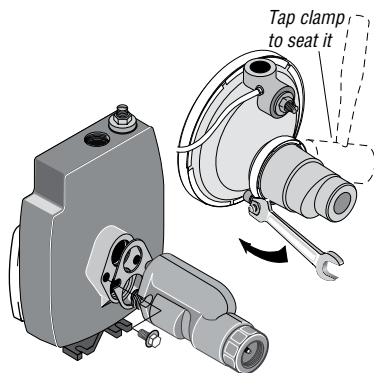

Figure 8: Install Ejector
2. Install ejector kit FP4855 with a Series 4200 pump, or kit FP4875 with a Series 4300 pump (kits are sold separately). Follow the instructions provided with the kit. Align the venturi with the top hole on the front of the pump (see Figure 8).